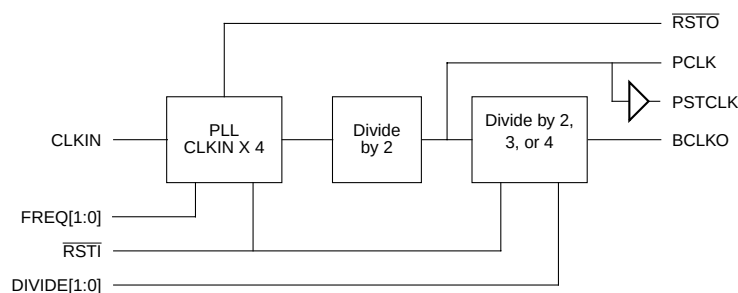

Figure 7-1. PLL Module Block Diagram
- A buffered processor status clock (PSTCLK) is equal to the PCLK frequency, as indicated in Figure 7-1. This signal is made available for system development.
Figure 7-1 shows the frequency relationships of PLL module clock signals.
| PSTCLK                   | Provides a buffered processor status clock at 2X the CLKIN frequency. PSTCLK is a delayed version of PCLK. See Section 7.4.1, "PCLK, PSTCLK, and BCLKO," and Figure 7-1. |